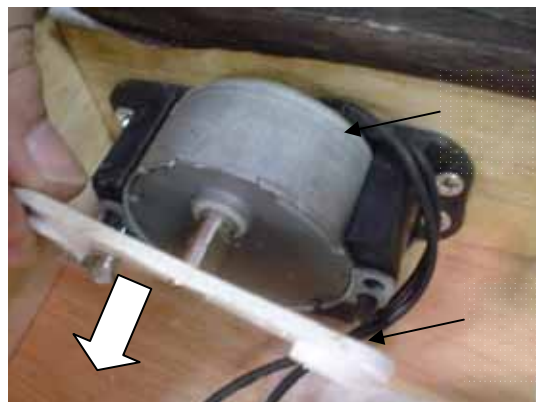

Fig.16
- 2, Take out the screws from the baffle of the motor, and take off the baffle Fig.16.